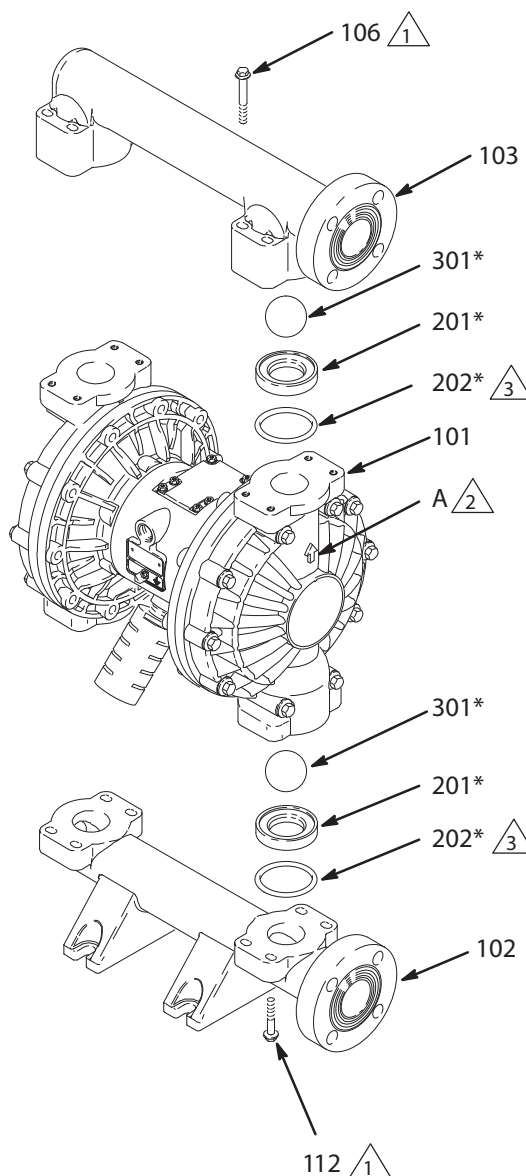

Fig. 11
3. Using a 10 mm socket wrench, remove the eight bolts (106) holding the outlet manifold (103) to the fluid covers (101). See Fig. 11.
4. Remove the seats (201), balls (301), and O-rings (202) from the manifold.
**NOTE:** Some models do not use O-rings (202).
5. Turn the pump over and remove the bolts (112) and inlet manifold (102). Remove the seats (201), balls (301), and O-rings (202) from the fluid covers (101).
2. Reassemble in the reverse order, following all notes in Fig. 11. Be sure the ball checks are assembled exactly as shown. The arrows (A) on the fluid covers (101) must point toward the outlet manifold (103).